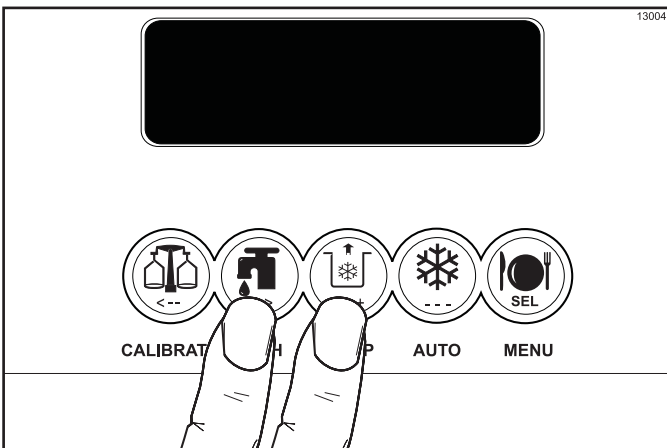

Figure 6-67
5. When the flow of product stops, press the WASH and PUMP keys, canceling the Wash and Pump modes. Close the draw valve. **Discard this product.** (See Figure 6-67.)